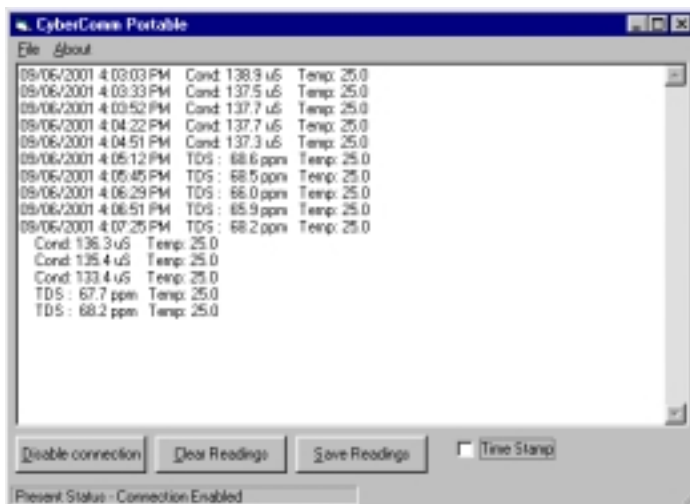

Figure 52: A set of data print in CyberComm Portable DAS
4. With the CyberScan CON 200 meter switched on, press the PRINT key to send data to the computer. See Figure 52 below.